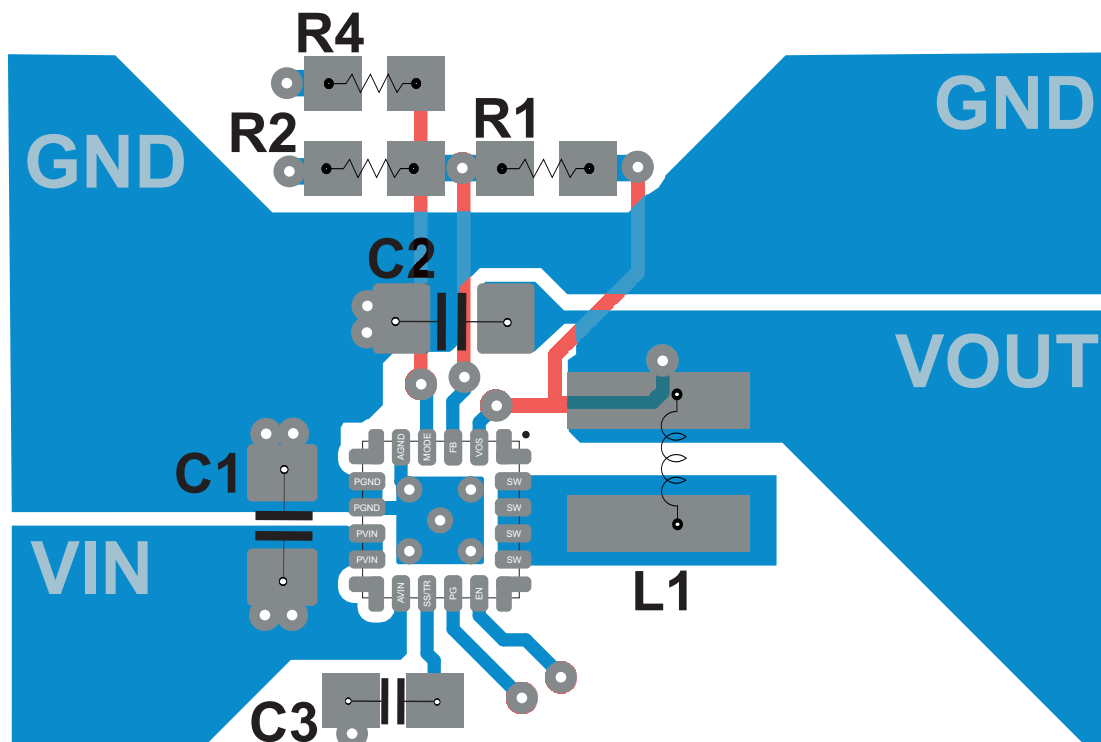

Figure 25. TPS62097-Q1 PCB Layout
- Refer to Figure 25 for an example of component placement, routing and thermal design.